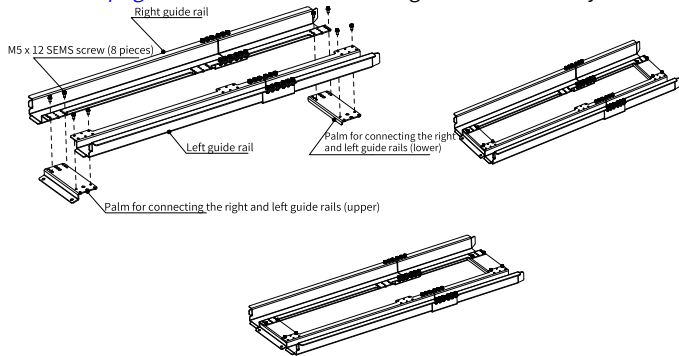

Figure 5-8 Making a guide rail assembly
a. "Figure 5-8 " on page 99 shows how to make a guide rail assembly.